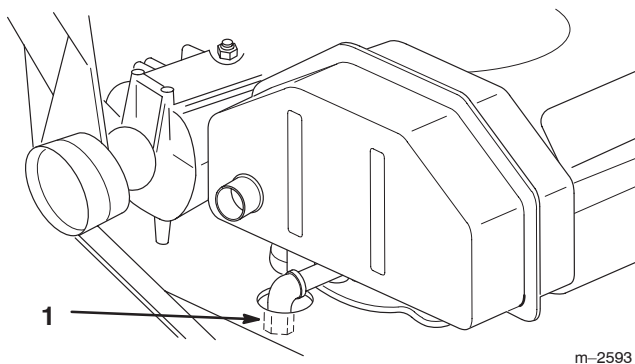

Figure 21
3. Place a pan below the oil drain. Remove the oil drain cap (Fig. 21).